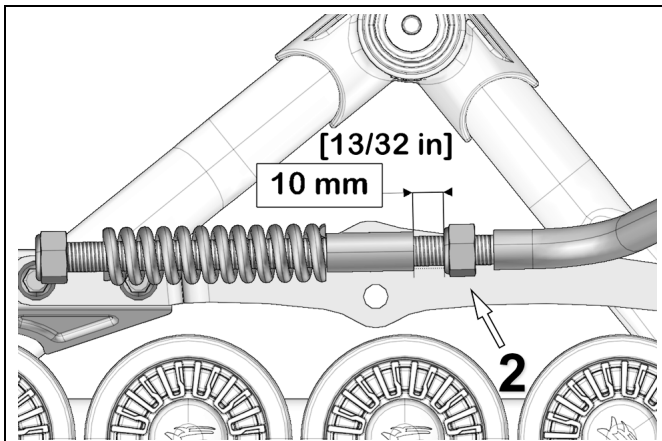

Figure 11
- Set the nut (2) to obtain a distance of 10 mm between nut and stabilizing arm guide as shown on Figure 11.